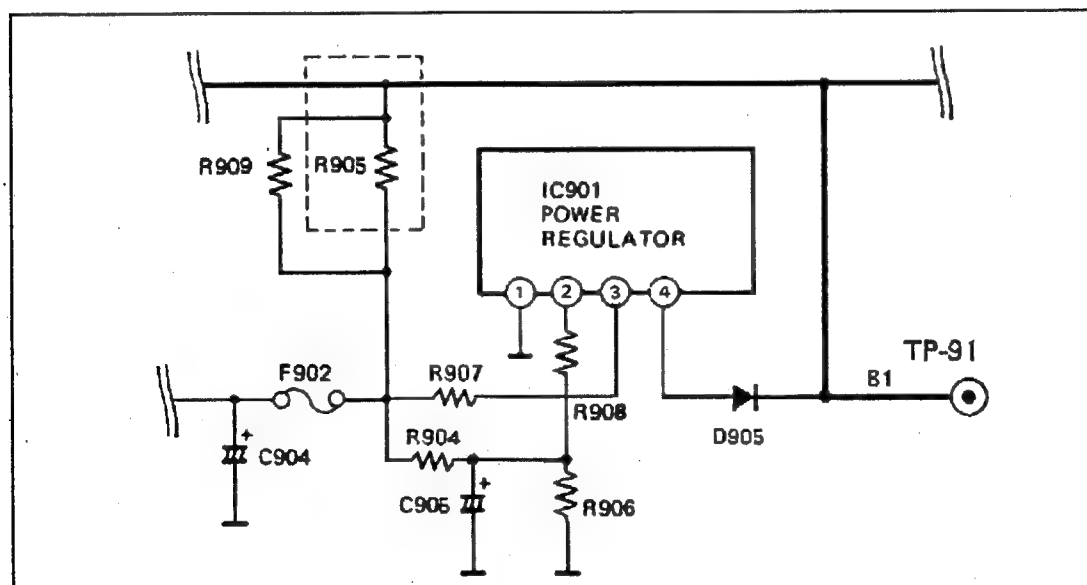

Fig.2
- (1) Make the short circuit across R905, 330 Ω 15W UNF R (shown in Fig.2,) under normal operating condition.
- (2) Confirm the picture goes out.